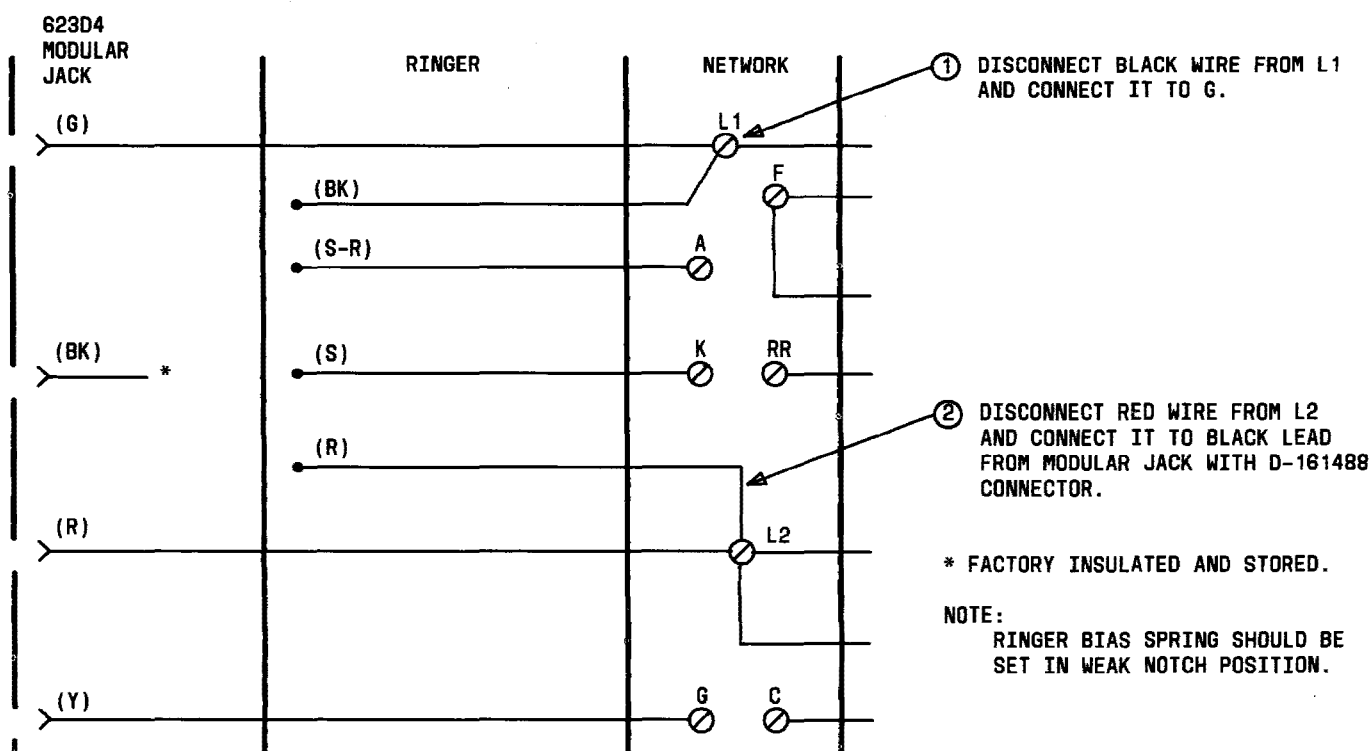

Fig. 4—Modification of 500DM Telephone Set
**2.06** As shown in Fig. 4 and 5, each telephone must be modified to function properly with the control unit. It is also recommended that both ends of the handset cords and the telephone set end of the mounting cords be modified as shown
*Before operating the Teletrainer, be sure that the two telephones have been modified as specified in Fig. 4 and 5.*